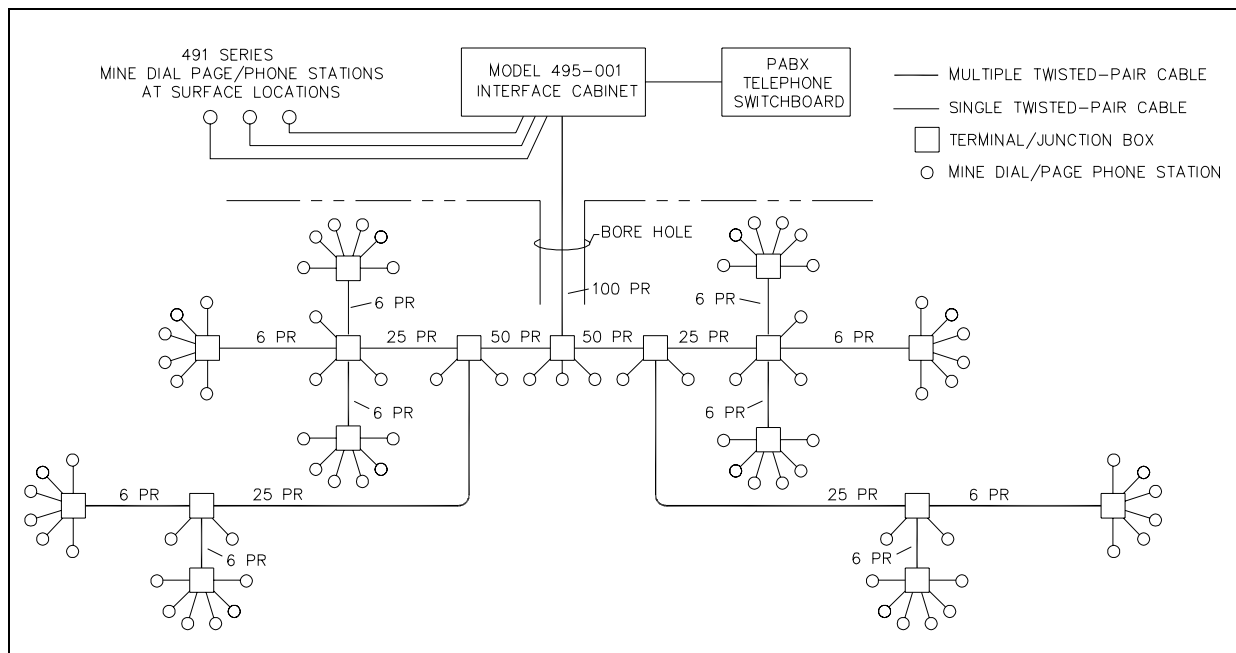
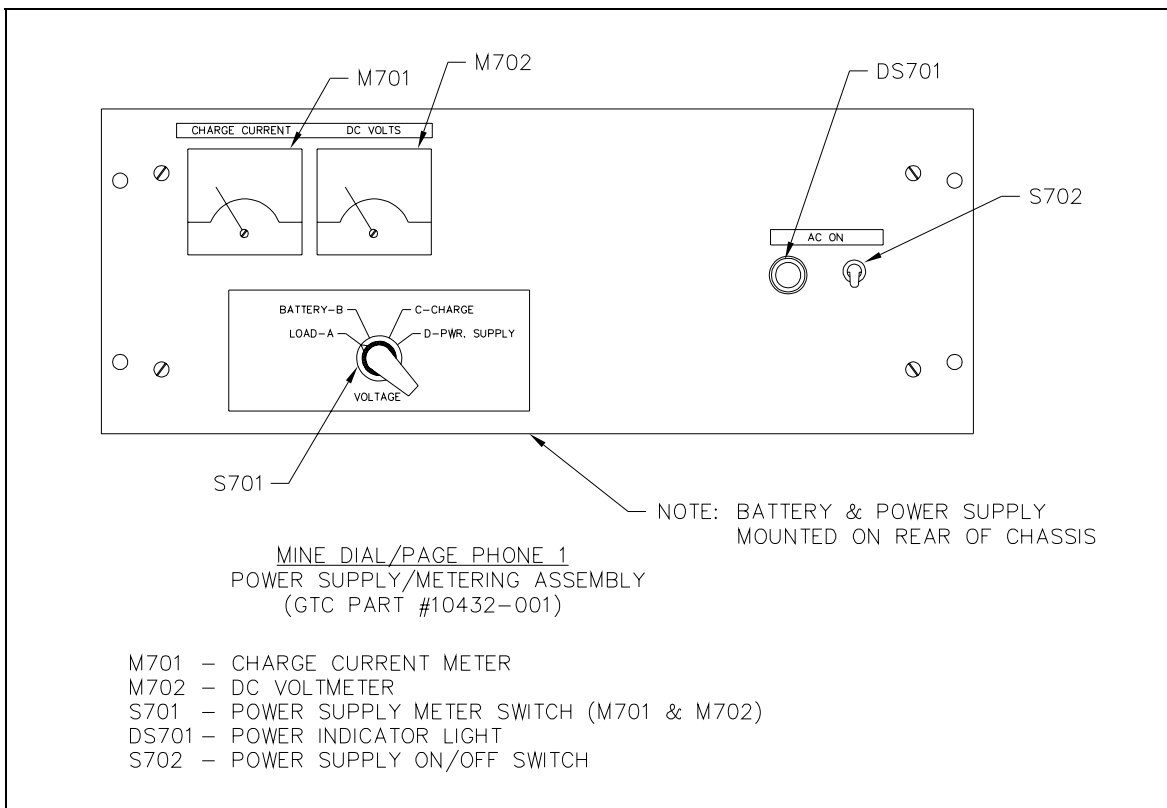
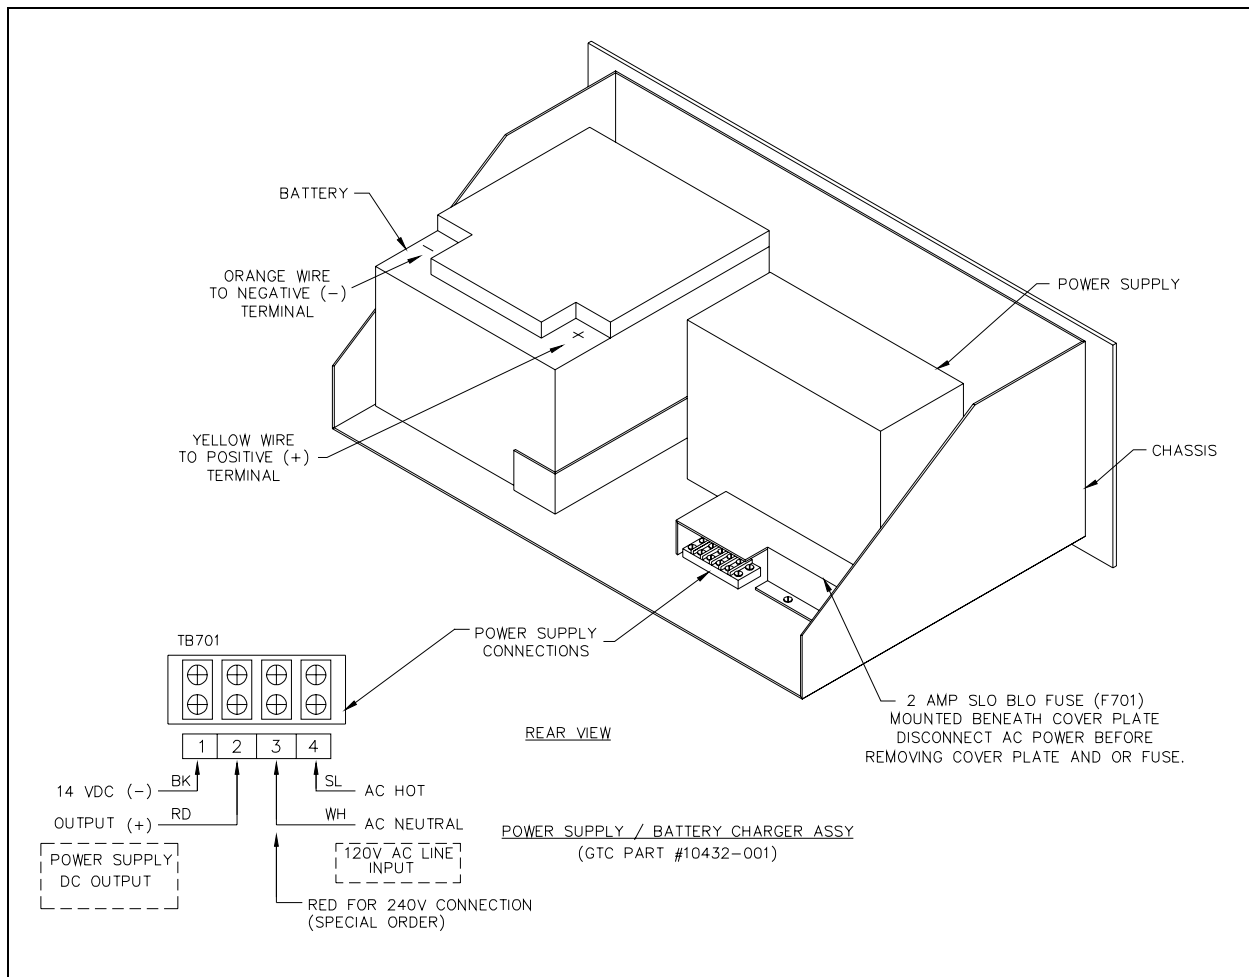

Figure 5. Typical 80-Station Mine Dial Phone Cable System
Figure 8. Power Supply
Figure 9. Power Supply/Battery Charger Assembly
DC power to operate the interface circuitry ordinarily comes from an ac-operated power supply located within the Power Supply/Metering Panel assembly. See Figure 8 and Figure 9. Space is provided within this assembly for a rechargeable, non-liquid, lead acid 12 V battery. The battery backs up the system in the event of power supply failure or ac power source failure. The Power Supply/Metering Panel assembly contains meters and switches to indicate the state of the power supply and battery. The assembly occupies the space of a 7 × 19-inch rack panel.
The cable system for a typical 80-station system is shown in Figure 5. The drawing shows the use of 100, 50, 25, and 6-pair cable. Spare conductor pairs in all main distribution cables provide for future expansion. Cable with an integral messenger wire, commonly called “figure 8 cable,” simplifies installation.
AC Power Connection - 120 V ac, 60 Hz, should be brought into the receptacle box at the rear near the floor of the cabinet. All ac-operated circuits within the interface cabinet are pre-wired to this receptacle box. The power line to the interface cabinet should have an independent 15-amp (minimum) line. Be sure the AC ON switch on the front panel of the Power Supply/Metering Panel Assembly is in the down (off) position before applying ac power. See Figure 8.
Install the stand-by battery in the rear of the Power Supply/Metering assembly as shown in Figure 9. Connect the orange wire to the battery negative (-). Allow the yellow wire to remain disconnected until power supply has been checked out.
Set S701 to the D-PWR. SUPPLY position and turn on (up position) S702 on the Power Supply. See Figure 8. The amber indicator light (DS701) on the front panel should be lit. The dc voltmeter (M702) of the front panel should indicate approximately 14 V dc and the charge current (M701) meter should read 0 amp current flow.
After the power supply/battery charger has been installed and checked out, connect the yellow wire from the Power Supply/Metering assembly to the battery positive (+) terminal as shown in Figure 9. Turn the voltmeter switch to the “B-Battery” position. The voltmeter (M702) should read about 12 V.
Refer to Figure 8. If the green RESET INDICATOR lamp (**CR504**) on the DC Power Transfer assembly panel is not lit:
4. Turn switch to D-PWR.SUPPLY position. If the DC VOLTS meter now indicates zero or near zero voltage, even with the presence of ac line voltage, the internal power supply may be defective, or the ac fuse may be blown. The ac line fuse is a 2 A slo-blo (**F701**) fuse located in the rear of the Power Supply Metering assembly under a cover plate. Refer to Figure 9. The cover plate must be removed to access the fuse.